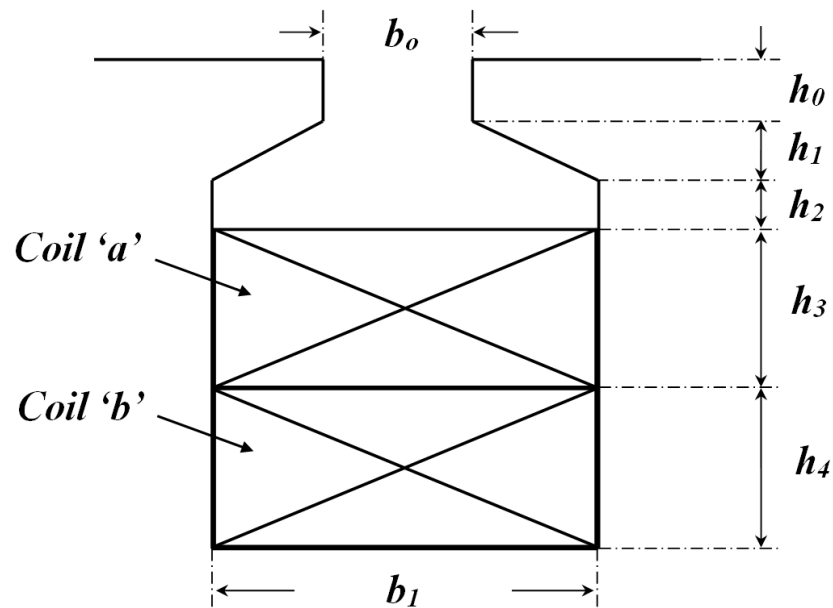

Figure 3 (Numbers of turns in the slot for coil “a” and coil “b” are N_a and N_b respectively)
4. For a slot shown in Figure 3, specifying any assumptions which need to be made (Full marks will not be given if the appropriate assumptions are not specified)